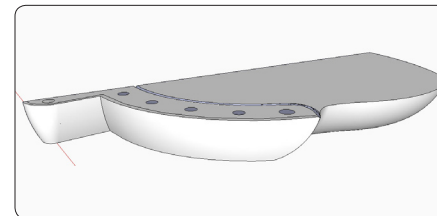

Figure 85. With the rear shaped, the seat's edge is fully undercut. Add a cove around the rear edge.
Step 3 Use the Orbit Tool to move around to the back of the seat, then draw another arc representing the undercut for the rear of the seat. The seat's top back edge serves as the path for the Follow Me Tool in this step. Repeat the procedure in Step 2 to finish curving the edge of the seat (Figure 85). Use the Arc Tool to place a small cove shape on the seat's top back edge, as shown in Figure 85. Follow the procedures in Step 2 to make the cove shape.